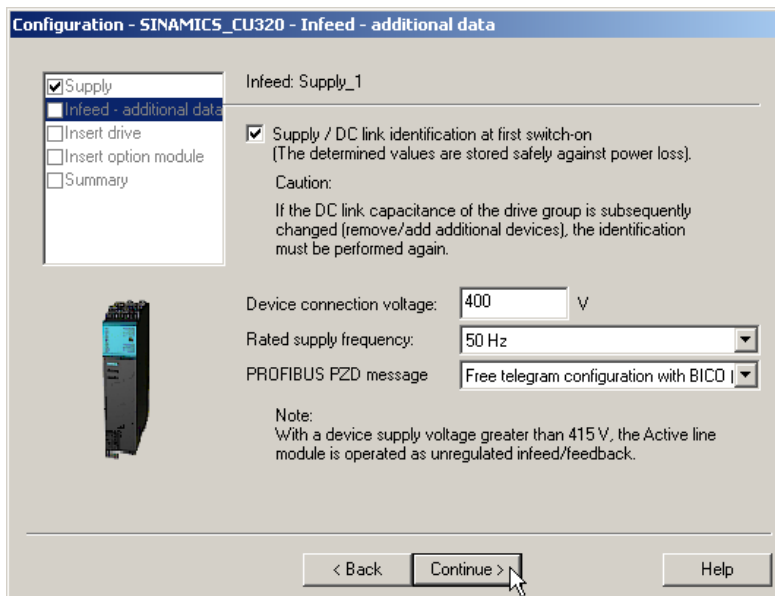

Fig. 3-15 Infeed: further data
4. Choose **Continue >** to select further data for the active line module (infeed) (see Fig. 3-15).